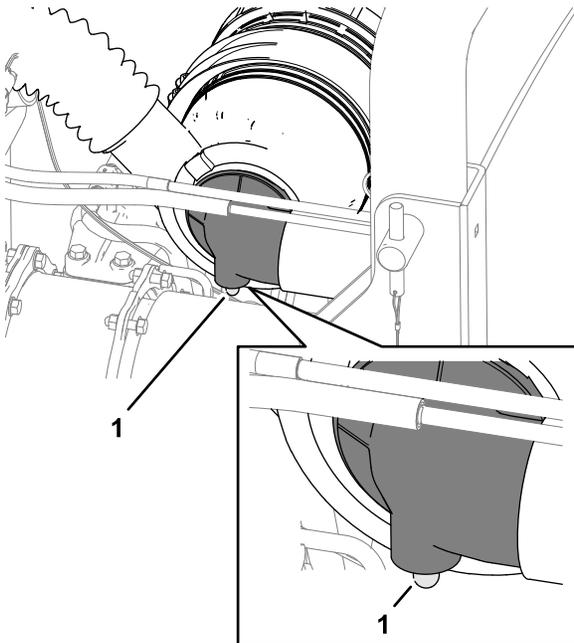

Figure 51
2. Check the air filter-blockage indicator (Figure 51).
**Note:** Service the primary air filter when the filter-blockage indicator (Figure 51) is red. Changing the air filter frequently increases the chance of dirt entering the engine when the filter is removed.